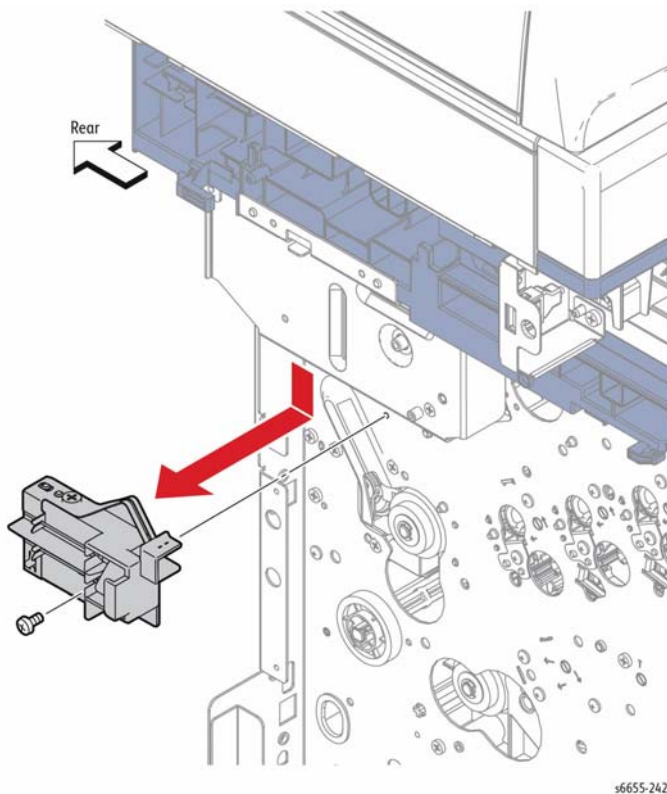

Figure 1 Remove the Varistor
6. Refer to Figure 1 to locate and remove the screw (silver, 6 mm) that attaches the Varistor to the printer and remove the device.